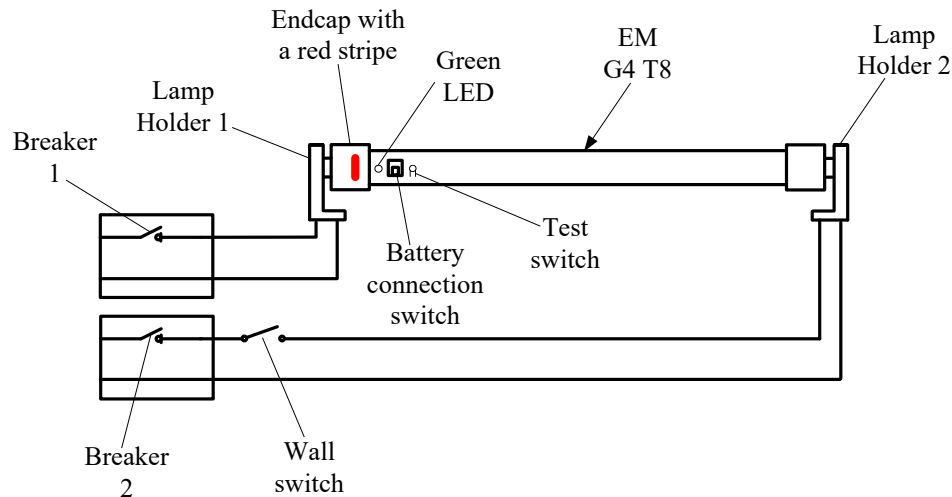

Fig. 1
6. Install the non-shunted lamp holders provided with the aleddra's emergency G4 LED T8 lamp retrofit kit into the fixture: Refer to wiring diagram in Fig. 1.